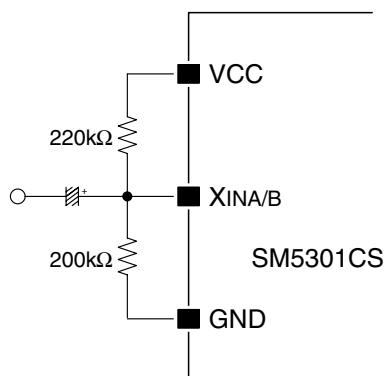

Figure 1. Input pin bias circuit diagram when measuring maximum overshoot, output harmonic distortion, and group delay variation
1. Bias input shown in Figure 1